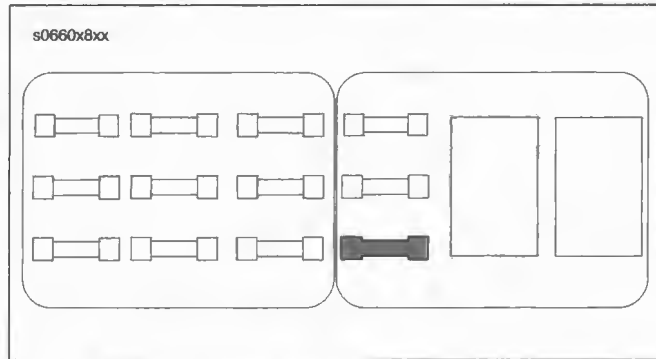

Figure 4-17. Fuel Pump Fuse: View From Top
- a. See Figure 4-17. Disconnect the fuel pump fuse from the main wiring harness.
6. See Figure 4-17. Install fuel pump fuse.